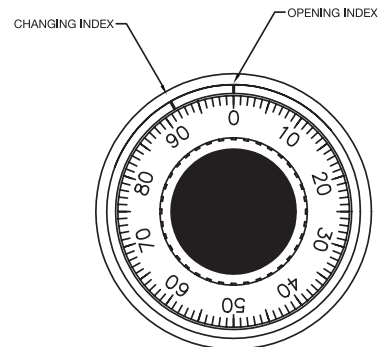

Figure 3
- Mount the dial ring centered on the through hole, and attach to the safe door using the two mounting screws supplied with the dial assembly. The opening index reference mark must be in the twelve o'clock position (Figure 3).
2. Stop when 50 lines-up with the Opening Index (Figure 3).